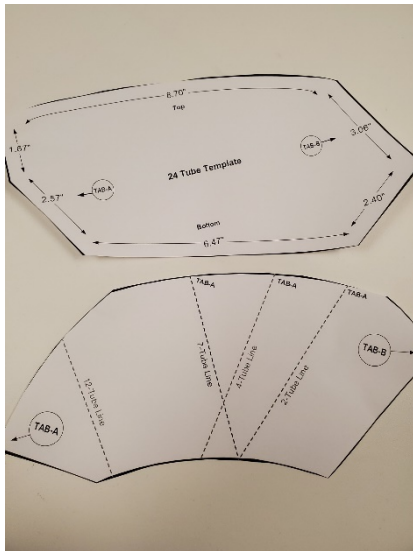

Figure 11
10.5 Cut out paper template and tape it to the polyethylene sheet rectangle. **See Fig. 11.**